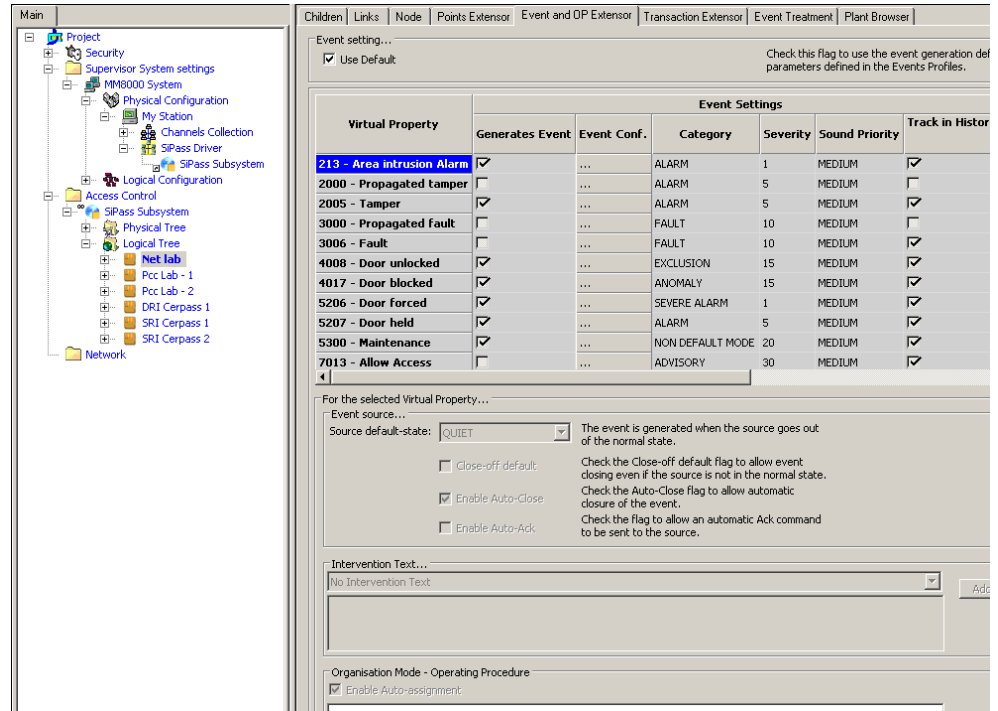

Fig. 12 Customising individual SiPass points event setting
- In the **Event and OP Extensor** tab of each individual point, customise the options of an event (e.g.: modifying the event settings for the properties as in Fig. 12).